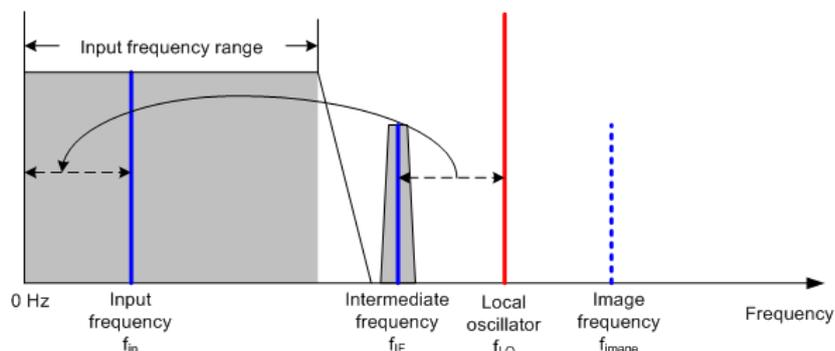

Figure 6-3: Mixing process
The mixer converts the RF signal to a fixed intermediate frequency (IF). This process usually involves several stages. It lasts until you get an IF for which good narrowband filters are available. The R&S FSC needs three mixing stages to get an IF that the filter can handle. Figure 6-3 graphically shows the mixing process.